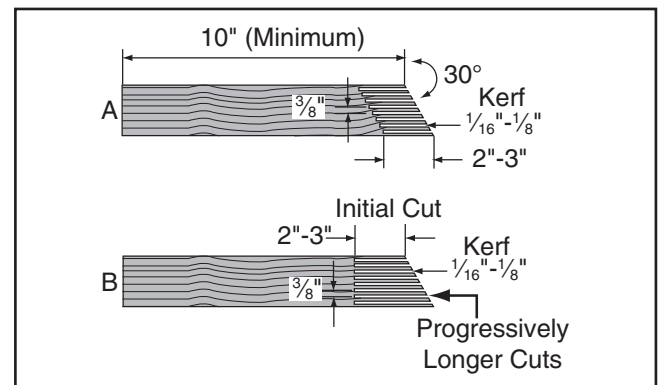

Figure 74. Patterns for featherboards (top view shown).
3. Make a series of end cuts with the grain $\frac{3}{8}$ "– $\frac{1}{4}$ " apart and 2"–3" long, as shown in **Figure 74 (A)**. Alternatively, start cuts at 2"–3" deep, then make them progressively deeper, as shown in **Figure 74 (B)**.